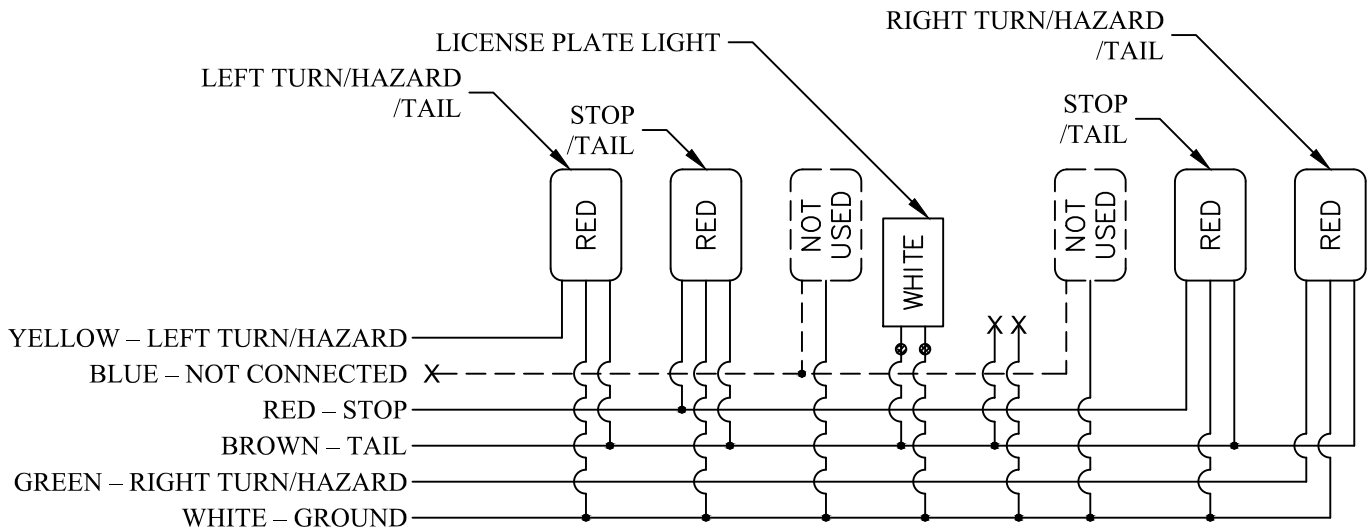

Figure 23: Light kit wiring diagrams.
10. Connect the license plate light to the wiring harness using heat shrink butt connectors (Figure 23).